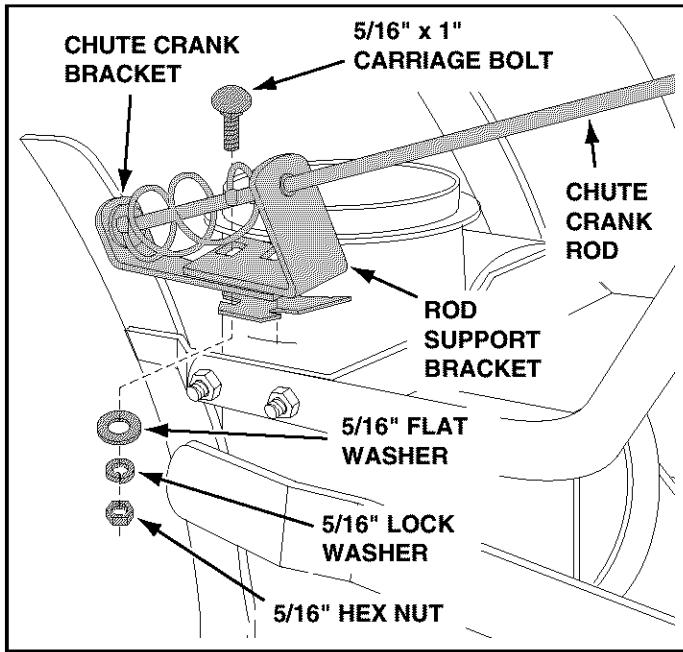

FIGURE 19 **LEFT SIDE VIEW**
- Attach the chute crank rod assembly brackets to the plastic bracket on the left side of the thrower housing. Align the chute crank bracket beneath the rod support bracket and assemble both to the plastic bracket using two 5/16" x 1" carriage bolts, 5/16" flat washers, 5/16" lock washers and 5/16" hex nuts. **Do not tighten yet.** See figure 19.
- Position the crank rod spiral so that it does not rub against the bottoms of the notches in the chute flange. **Tighten** the nuts. Refer back to figure 19.